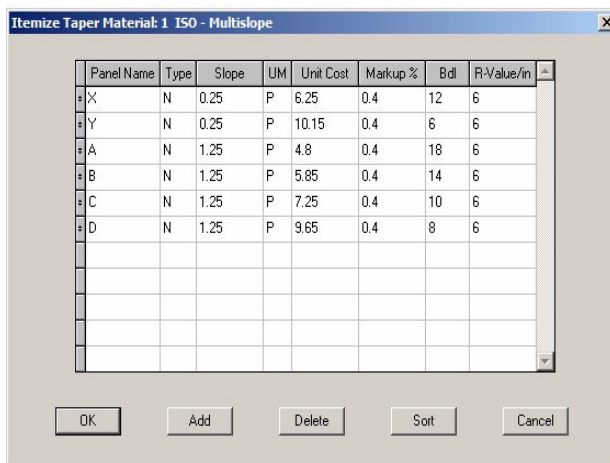

Figure 5-18 Itemize Taper Material dialog box, finished
9. Fill in the remaining columns so that the dialog box matches the one shown in Figure 5-18.